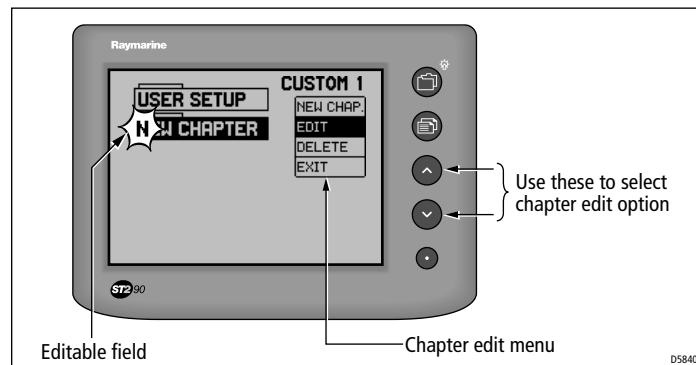

Figure 2-11: Edit chapter name
3. Hold down the  button for 1 second. The first character of the chapter name flashes (see *Figure 2-11*) to indicate you can edit it.